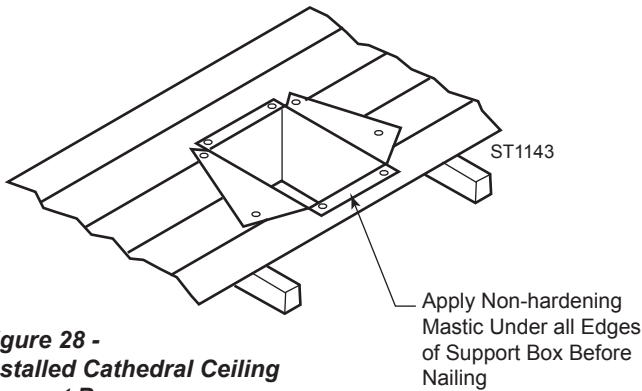

Figure 28 - Installed Cathedral Ceiling Support Box
4. Using tin snips, cut the support box from the top corners down to the roofline and fold the resulting flaps over the roof sheeting. *Figure 28.* Apply a bead of non-hardening mastic around the top edges of the support box to make a seal between the box and the roof. Nail in place with roofing nails. Remove any combustible material that might be inside the support box.